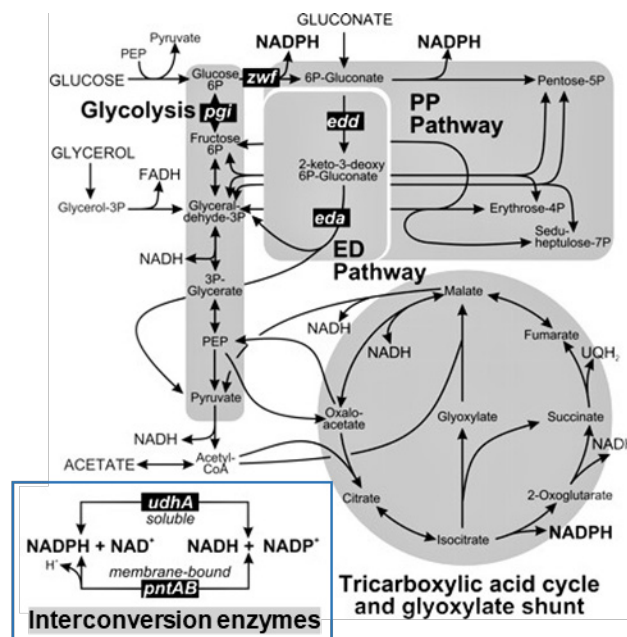

Figure 6v. Pathways for Question 4. Modified from Sauer *et al.*, 2004.
4. Bacteria undergo depletion of NADPH in the process of breaking down PCP. Considering your knowledge of metabolism and the pathways shown in Figure 6v, what is one way you could use metabolic engineering to facilitate regeneration of NADPH?